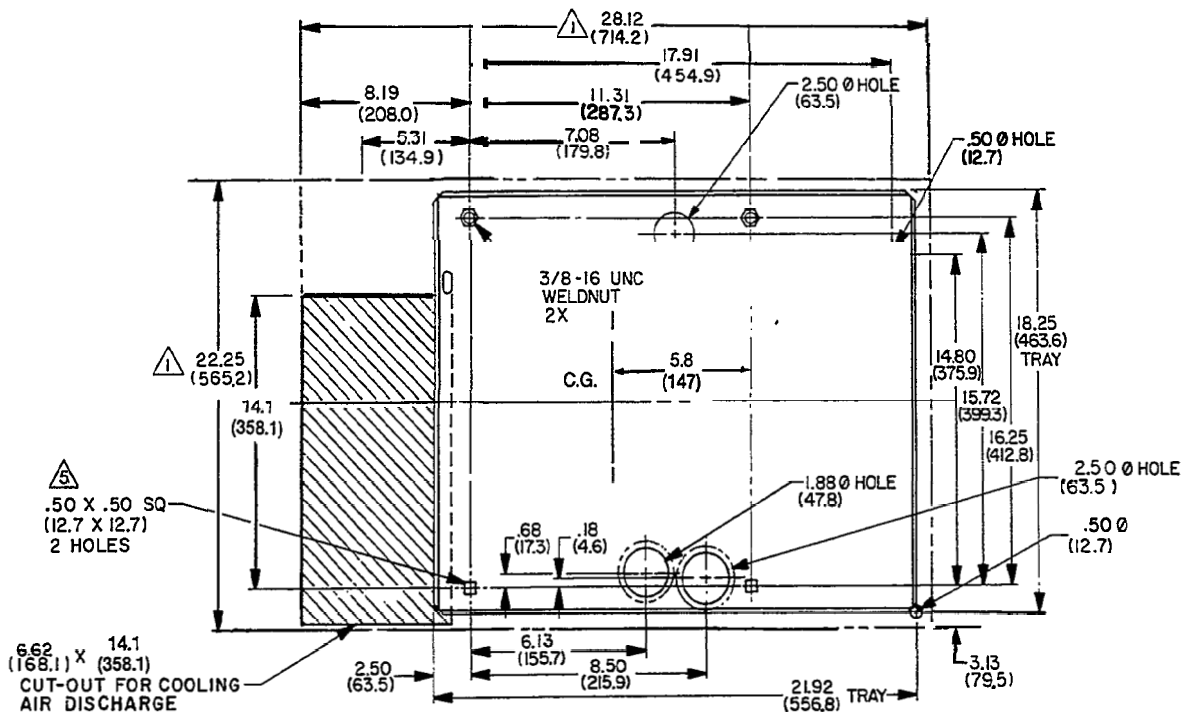

FIGURE 3. COMPARTMENT FLOOR PLAN
3. Construct the compartment floor in a manner so as to prevent oil, fuel or water accumulation. Compartment drainage can be accomplished by 1/2 inch (13 mm) diameter holes as shown on the compartment floor drawings, Figure 3.
5. Secure the generator set mounting plate to support frame using 3/8-16 UNC, grade 5 screws. The back two mounting holes are supplied with weld nuts to facilitate installing screws. The front two holes can be secured with 3/8-16 screws, lockwashers and nuts. The front holes are square to allow use of 3/8-16 cage nuts if desired. See Figure 3.